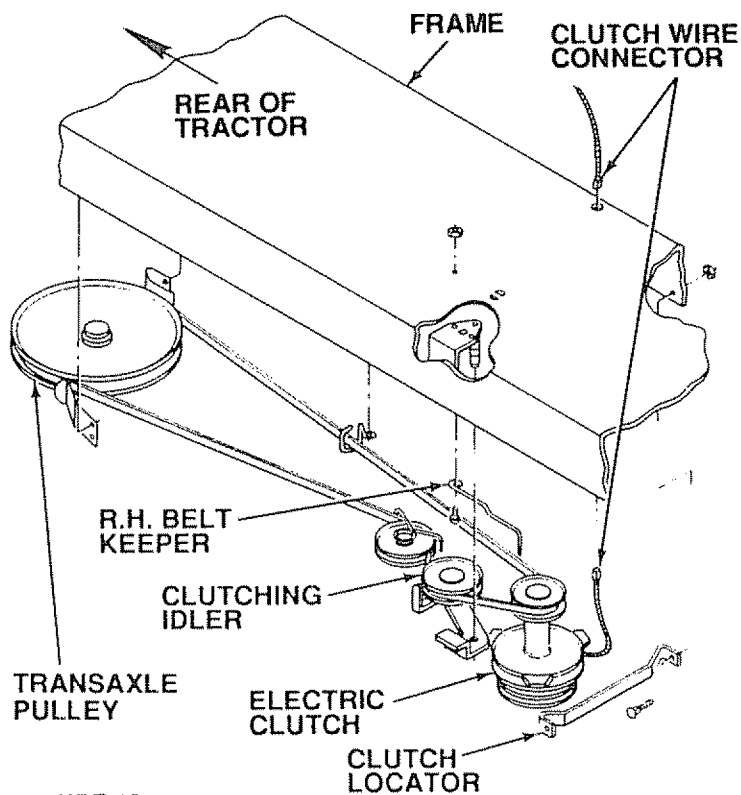

FIGURE 43
- Using a 1/2" wrench, remove the clutch locator (Fig. 43).
- Using a 9/16" wrench, loosen the right hand belt keeper (Fig. 43).
- Disconnect clutch wire connector. Push connector through frame (Fig. 43).
- Pull belt slack toward rear of tractor. Remove belt from transmission pulley by deflecting keepers to force belt up and out of pulley. (Use belt to push keepers away from pulley.) (Fig. 43)